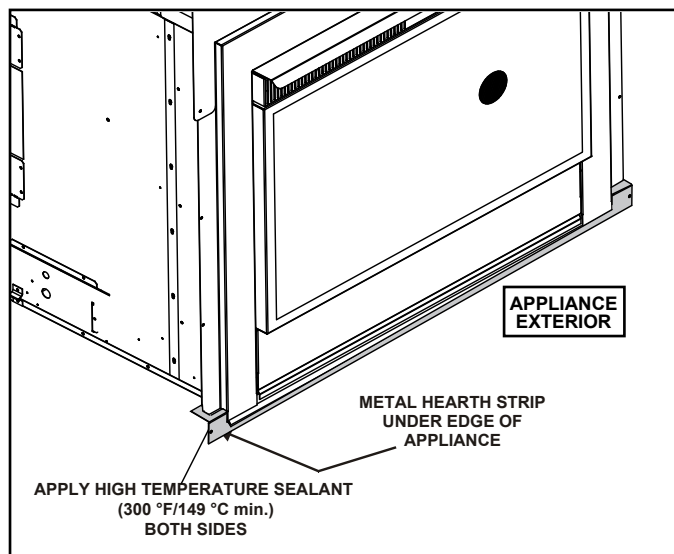

Figure 5.1 Positioning the Metal Hearth Strip
- Place the metal strip onto the structure where the outer edge of the appliance will sit. See Figure 5.1. It should overlap building paper to prevent water infiltration.